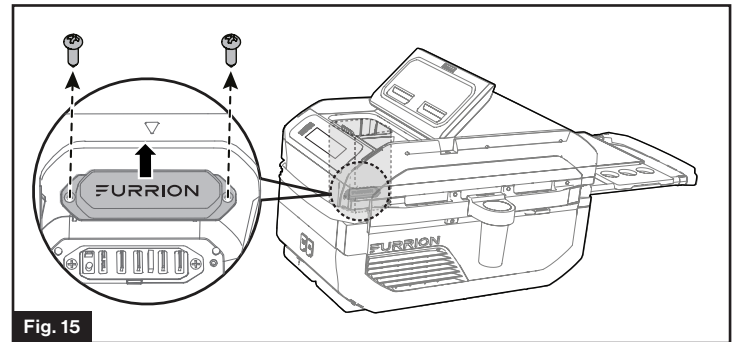

Fig. 15
2. Remove the terminal cap at the bottom of the battery compartment by unscrewing the 2 fastening screws. (Fig. 15)